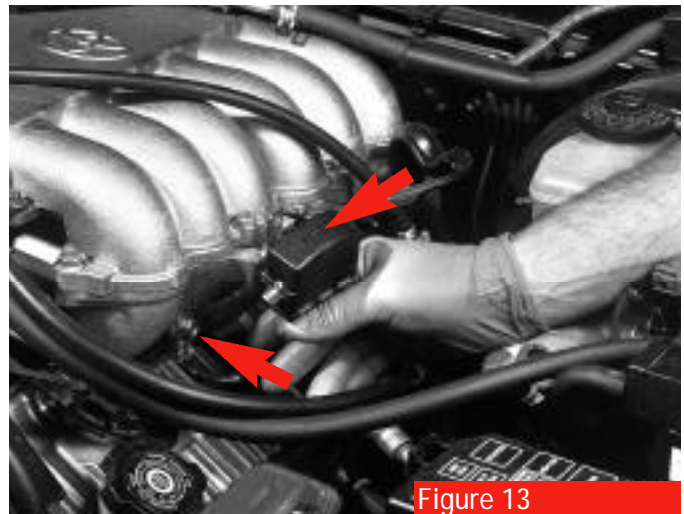

Figure 13
16. At the driver's side of the engine, remove the diagnostic plug from its mounting bracket (**upper arrow, figure 13**) and set it aside. Remove the bolt and bracket that hold the diagnostic connector to the stock manifold and save for reassembly. Remove the ground wire and move it to one side (**lower arrow, figure 13**).